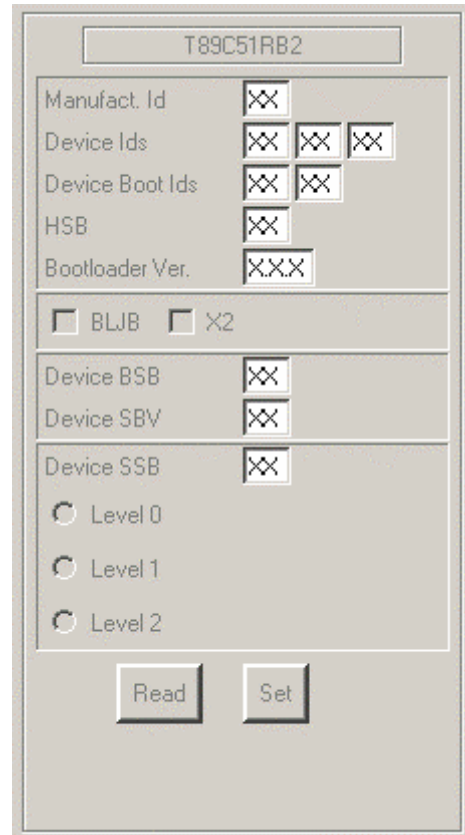

Figure 10 — Device-Specific Panel before Reading the T89C51RB2
- The screen changes to display the device-specific panel with appropriate fields for the T89C51RB2. As shown in **Figure 10**, these fields will remain read-only and the panel will remain “dimmed” until you specify the communication settings.